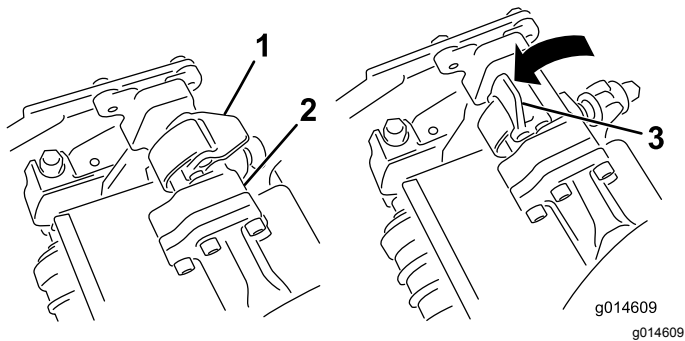
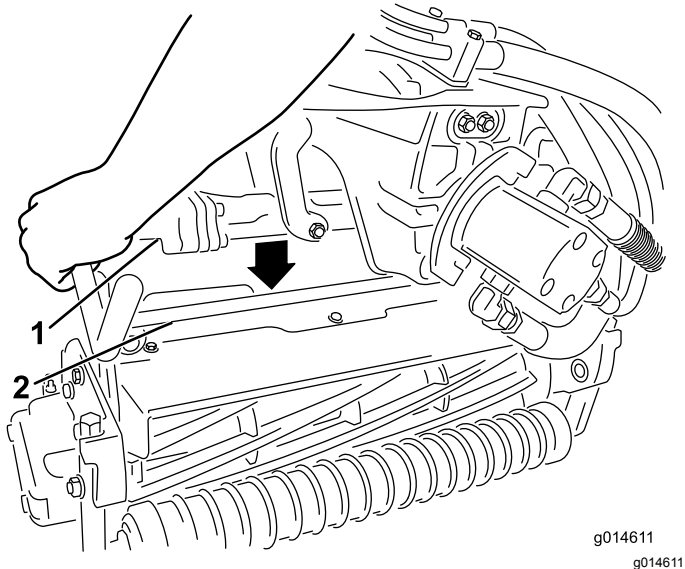

Figure 11
Figure 12
5. With the latches on the suspension-arm bar pointing up (i.e., open) (Figure 11), push the suspension arm down so that the bar fits over the bar across the top of the cutting unit (Figure 12).
6. Close the latches down and around the cutting-unit bar and lock them in place (Figure 11).